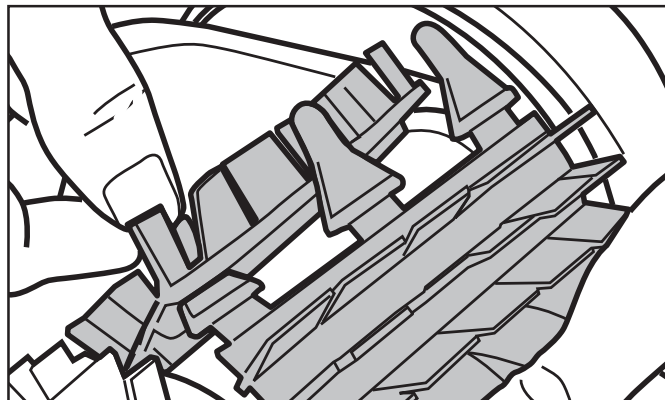

Figure 19. Pull Tabs Through Each Slot
4. Thread each tab into the slot provided and gently feed it through until the heel comes out at the other side of the slot.(Figure 19).